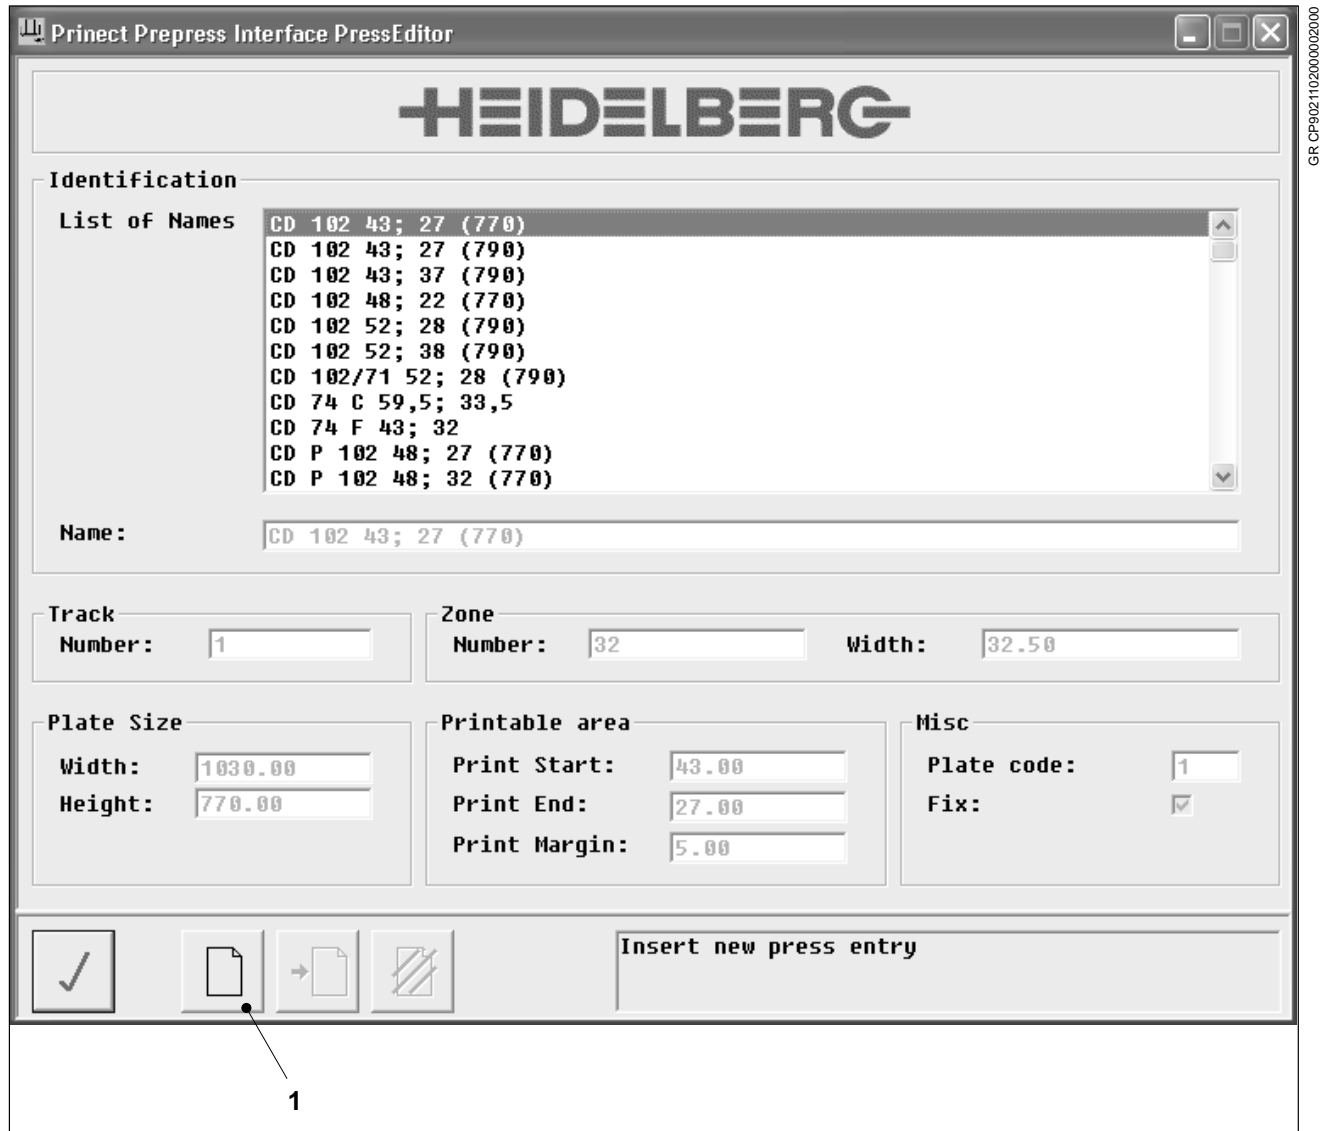

Fig. 16 PressEditor dialog box – button *Enter new printing press*
1. Click on the button *Enter new printing press* (Fig. 16/1)